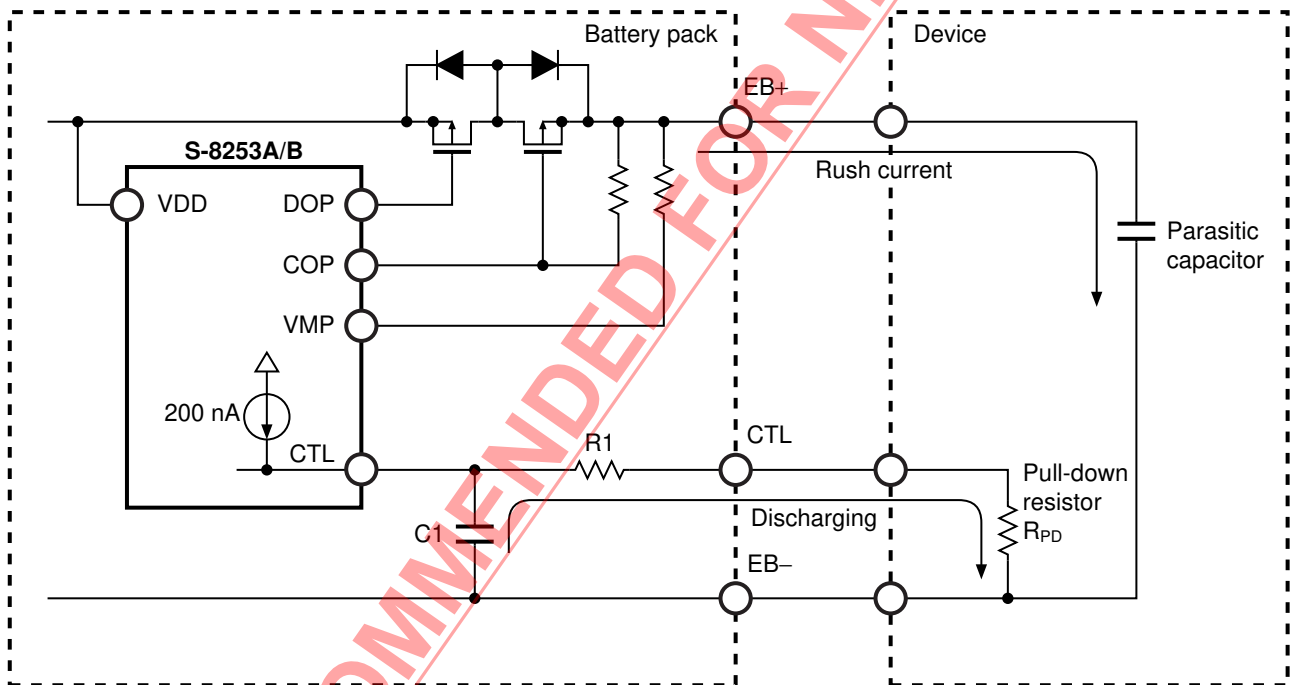

Figure 15
- In case of designing a circuit by using the CTL pin, as seen in **Figure 15**, note that discharging may stop during connecting a battery pack and the device.
As seen in **Figure 15**, before a battery pack is connected to the device, the battery pack may be in the charge / discharge inhibited status in which the CTL pin is internally pulled-up. From this status, if connecting the battery pack to the device, the CTL pin will be pulled-down in a time-constant $C1 \times (R1 + R_{PD})$ by a pull-down resistor in the device. If the CTL's potential reaches $V_{CTL} < V_{CTLH}$, the battery pack goes in the delay time-shortening status so that it releases charging and discharging, hence it starts charging a parasitic capacitor in the device. In this case, if the rush current, which makes the S-8253A/B Series to detect the overcurrent detection voltage 3 (V_{IOV3}), flows into the device, the overcurrent detection delay time 3 ($t_{IOV3} = 300 \mu s$ typ.) will be shortened. So that the battery pack goes in the overcurrent status in several 10 μs . However, the battery pack goes in the normal status by connecting the device to the charger.